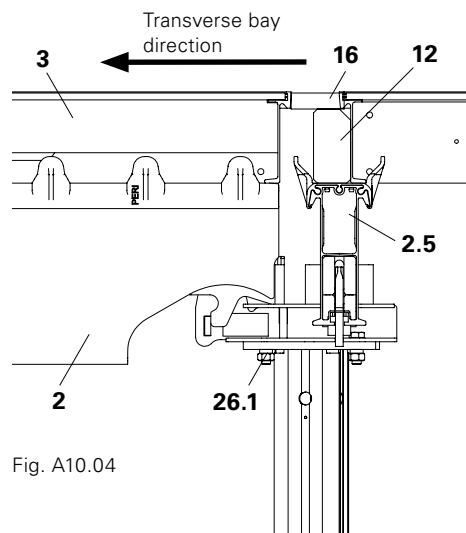

Fig. A10.04
5. If a gap occurs with the Panel SDP between the transverse bay direction and main bay direction, this is closed using filler timber (12) and filler plates (16). (Fig. A10.04)